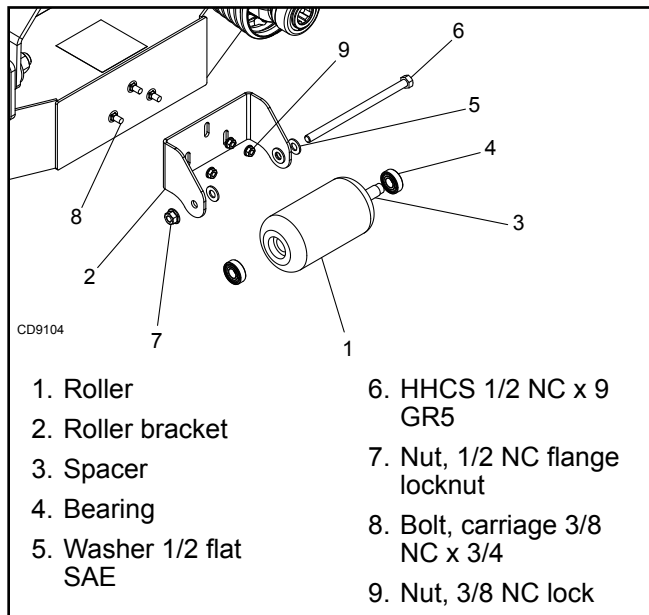

Figure 30. Front Roller Installation
1. Insert three carriage bolts (8) through the front mower frame from inside out.
2. Place roller bracket (2) over bolts; then install flange lock nuts (9) on bolts and tighten.
3. Place front roller (1), spacer (3), bearings (4), and washers (5) in roller bracket as shown in Figure 30.
4. Insert cap screw (6) through bracket and roller.
5. Secure with flanged lock nut (9). Do not over-tighten; roller must spin freely.